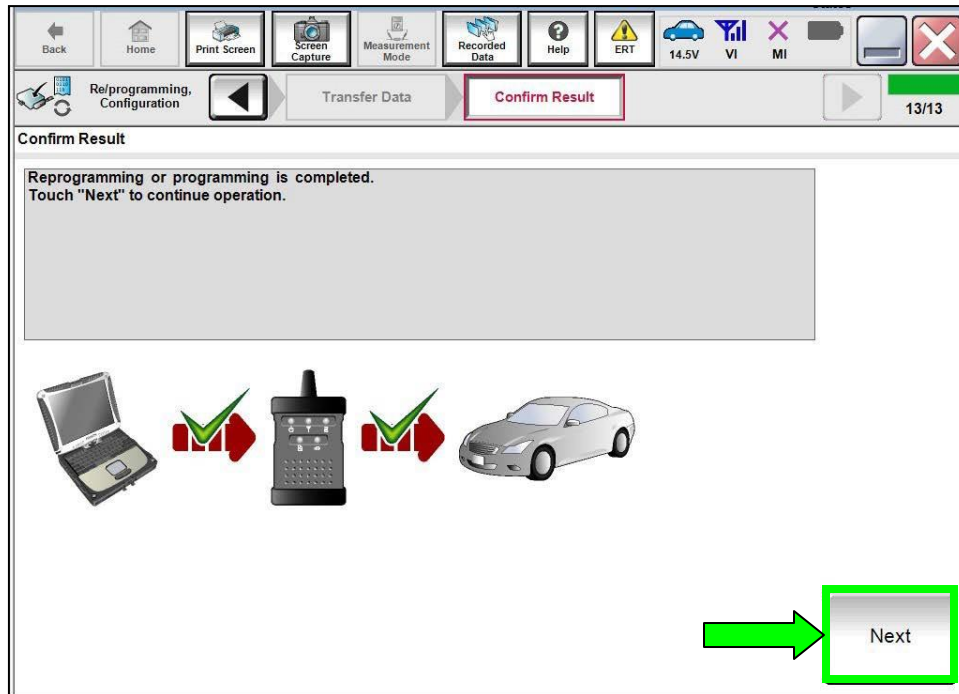

Figure 73
- If the screen in Figure 73 does not display (indicating that reprogramming did not complete), refer to the information on the next page.